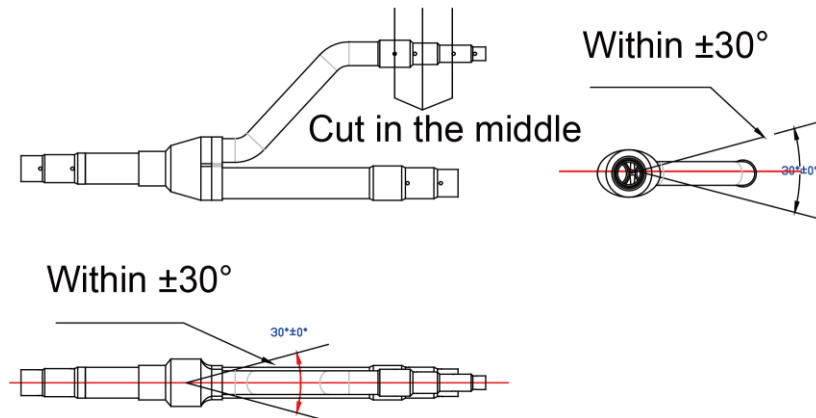

Fig.17
(2) Y-type branch has several pipe sections with different dimension, which facilitates to match with various copper pipes. Use pipe cutter to cut in the middle of the pipe section that is of proper dimension and remove burrs as well. See Fig.17.
(3) Y-type branch must be installed vertically or horizontally.